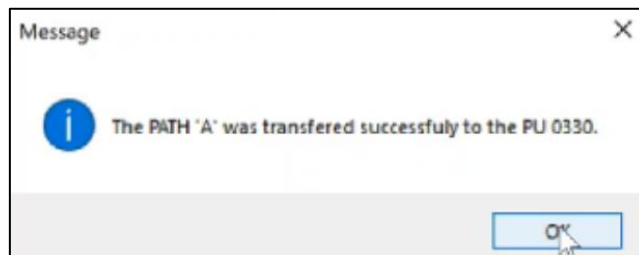

Fig. 329 - Message of successful exportation
6. The exportation is complete (Fig. 329).